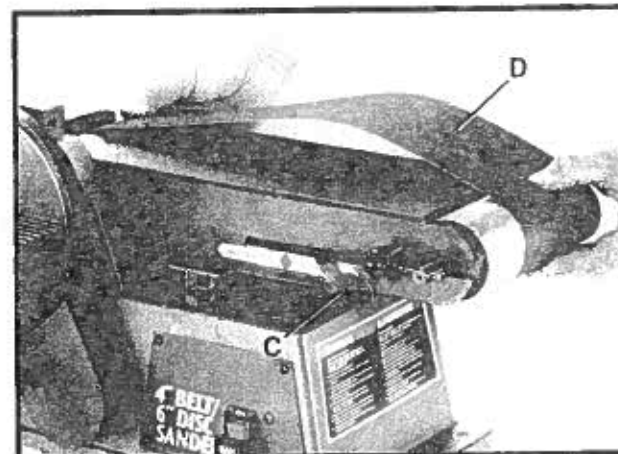

Fig. 41
3. Slide tension lever (C) Fig. 41, to the right to release tension on sanding belt and remove sanding belt (D) from both sanding drums, as shown.
5. Re-apply belt tension by sliding tension lever (C) Fig. 41, to the left.